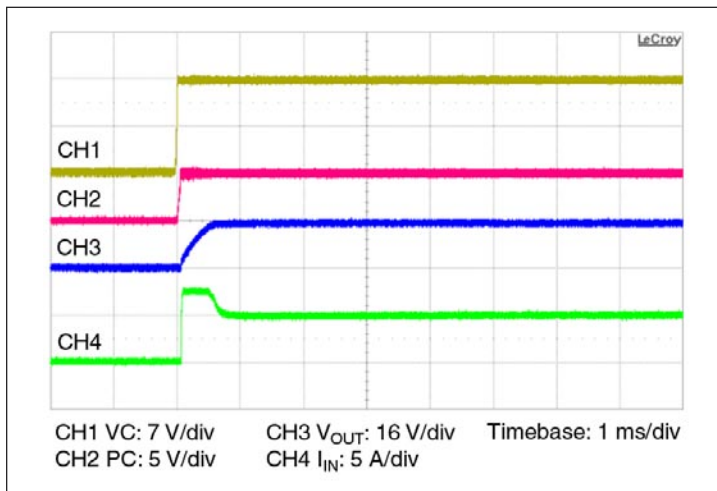

Figure 11 — Start up from application of VC;
- Stand-alone operation (VC applied after V_{IN}): In this case the VTM output will begin to rise upon the application of the VC voltage (See Figure 11). The Adaptive Soft Start Circuit (See Section 11) may vary the output rate of rise in order to limit the inrush current to its maximum level. When starting into high capacitance, or a short, the output current will be limited for a maximum of 1200 µsec. After this period, the Adaptive Soft Start Circuit will time out and the VTM module may shut down. No restart will be attempted until VC is re-applied or PC is toggled. The maximum output capacitance is limited to 800 µF in this mode of operation to ensure a successful start.